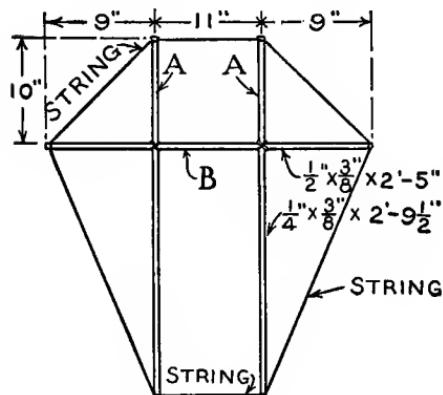
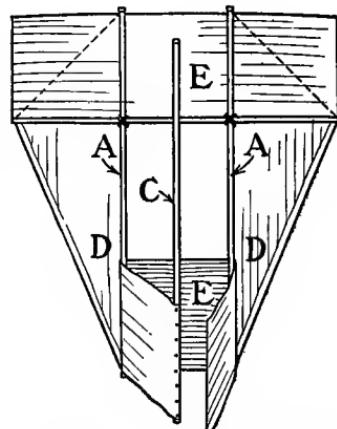
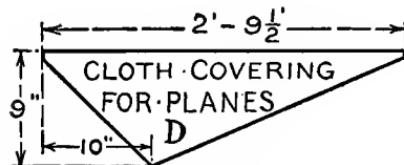

FIG. 467.—Framework of the Conyne Kite.
FIG. 468.—How the Covering is Put On.
FIG. 472.
Figure 467 shows the dimensions of sticks *A* and *B*. Stick *C*, the third stick of the cell framework (Fig. 468), is of the same size as sticks *A*. Notch sticks *A* near the ends, as shown in Fig. 469, to receive the framing string; notch the ends of stick *B*, as shown in Fig. 470, for the same purpose; and notch the sides of sticks *A* and *B* (Fig. 471) at the points where they are to lap one another, which points are located by measurements in Fig. 467, so the connecting cords cannot slip when tied.
FIGS. 472 and 473.—Patterns of Covering Pieces.
fastened around the notches at the ends. The distance between the centers of the ends should be exactly 11 inches, as shown in Fig. 467. Tie another piece of wire or string to the upper end of each stick *A*, run them through the notches in the ends of stick *B*, and tie to the notch in the lower end of sticks *A*. Figure 467 shows the framework completed thus far.
**Covering the Framework.** Cambric, or any strong dress-lining material is best for covering the planes *D* and the cells *E* (Fig. 468), though almost any closely woven light-weight cloth that your mother can spare you will do. Figure 472 shows the pattern for the plane strips *D*, and Fig. 473 shows the strips for the cells *E*. Tack the cell-covering strips to sticks *A*, one at each end, with an equal projection each side of the sticks; then pass the ends through the framework, and tack to the ends of stick *C* (Fig. 468). Use about No. 4-oz. tacks for tacking the cloth.